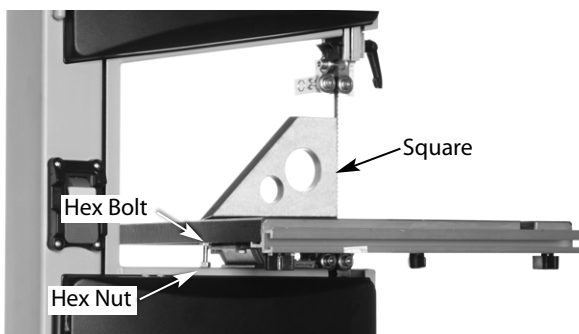

Figure 2 - Square table to saw blade.
1. Using a wrench, release the hex nut on the bolt (see Figure 2). Place the wrench on the hex bolt and adjust until the table is square to the saw blade.